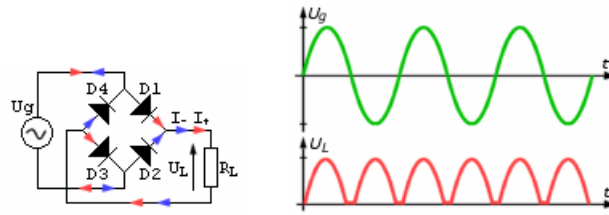

Fig.2. Schematic diagram of full-wave rectifier circuit and oscillograms of input  $U_g$  and output  $U_L$  voltage signal [4].
2. Use the jumpers to select the full-wave mode of rectifier (see Fig. 6b). Draw the related oscillograms – see Fig. 2.